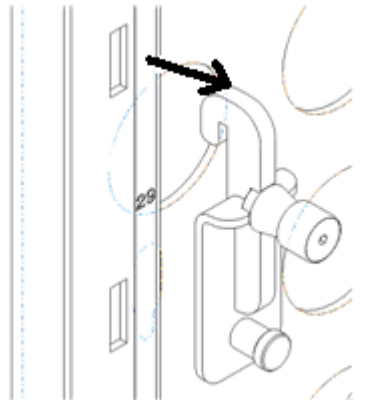

Figure 11 CAM Follower Removal
STEP 17 If servicing the CEC Drawer Slides/Rails of the lowest CEC Drawer in the rack, locate and remove the CAM Followers from their storage location as they are shipped in the lowest slot in the frame. The CAM Followers can be removed by pulling out the plunger and sliding the CAM Follower up to remove it from its storage location. See Figure 11.